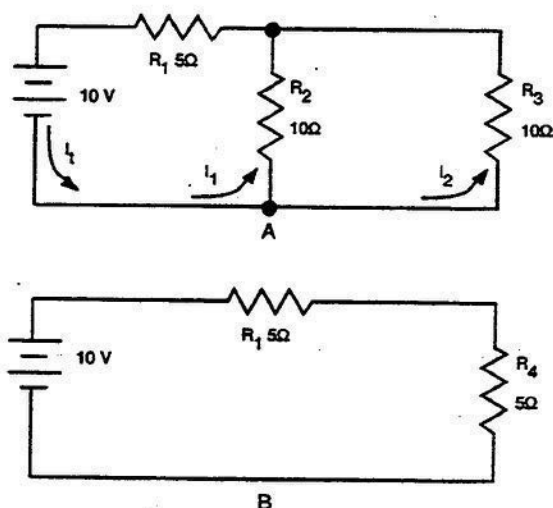

Figure 2-27. Series-parallel DC circuits.
**Calculate values in series-parallel circuits.** A series-parallel circuit appears to be very complex for a beginner in electronics. However, by applying the same laws and rules we learned for series and parallel circuits, series-parallel circuits are not as complex as they appear. A series-parallel circuit consists of groups of parallel resistance in series with other resistances. An example is shown in part A of figure 2-27.
Thus, in place of the two 10-ohm resistors, we could insert into the circuit a single 5-ohm resistor without altering the total current in the circuit. At this time, we can redraw the circuit as shown in part B of figure 2-27.